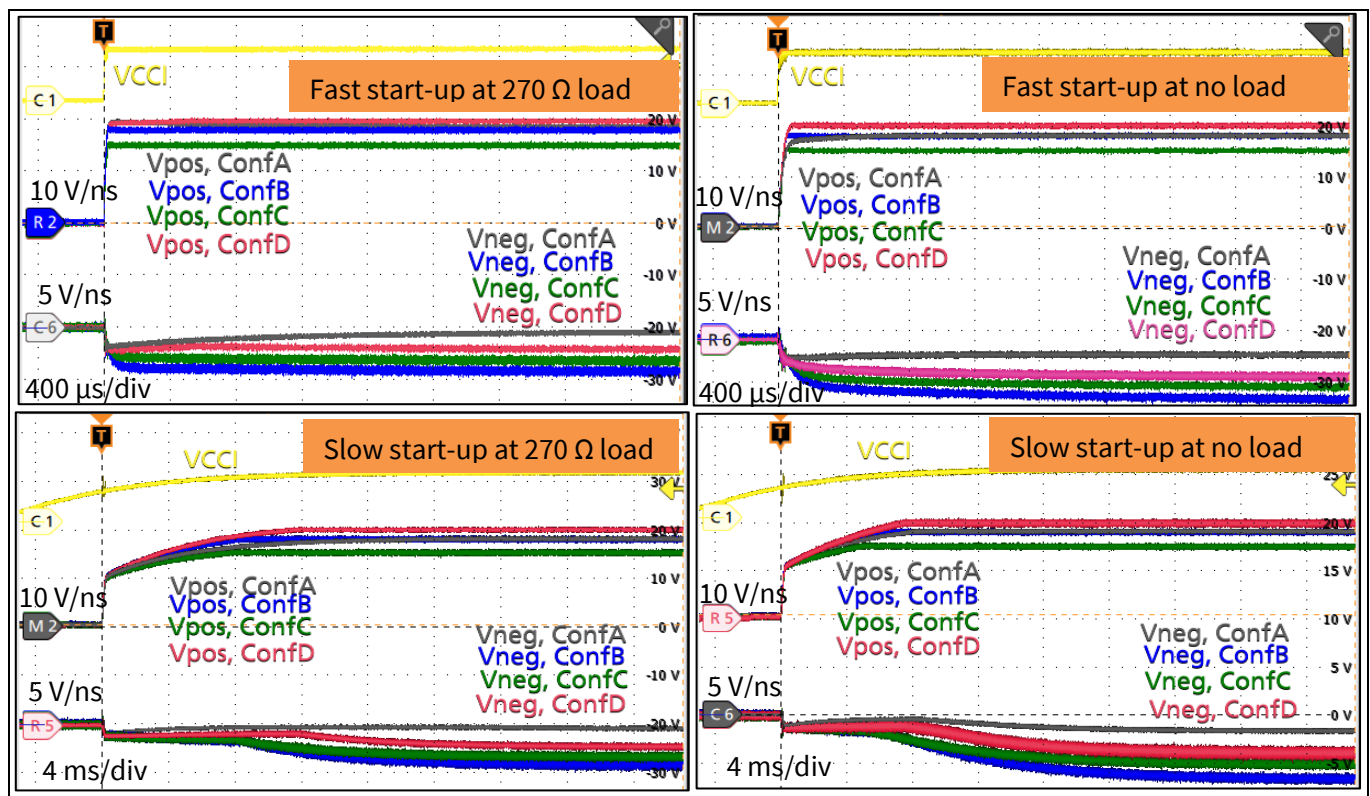

Figure 23 V_{pos} and V_{neg} during fast and slow start-up for Conf. A, B, C and D
c. No significant over- and undershoots are visible on the supply rails. In particular, the ratio of the capacitances C5 and C6 are selected to keep the undershoot above -2 V in Conf. A to respect Infineon's CoolSiC™ static V_{GS} ratings. A complete overview for the different configurations is provided in **Figure 23**.